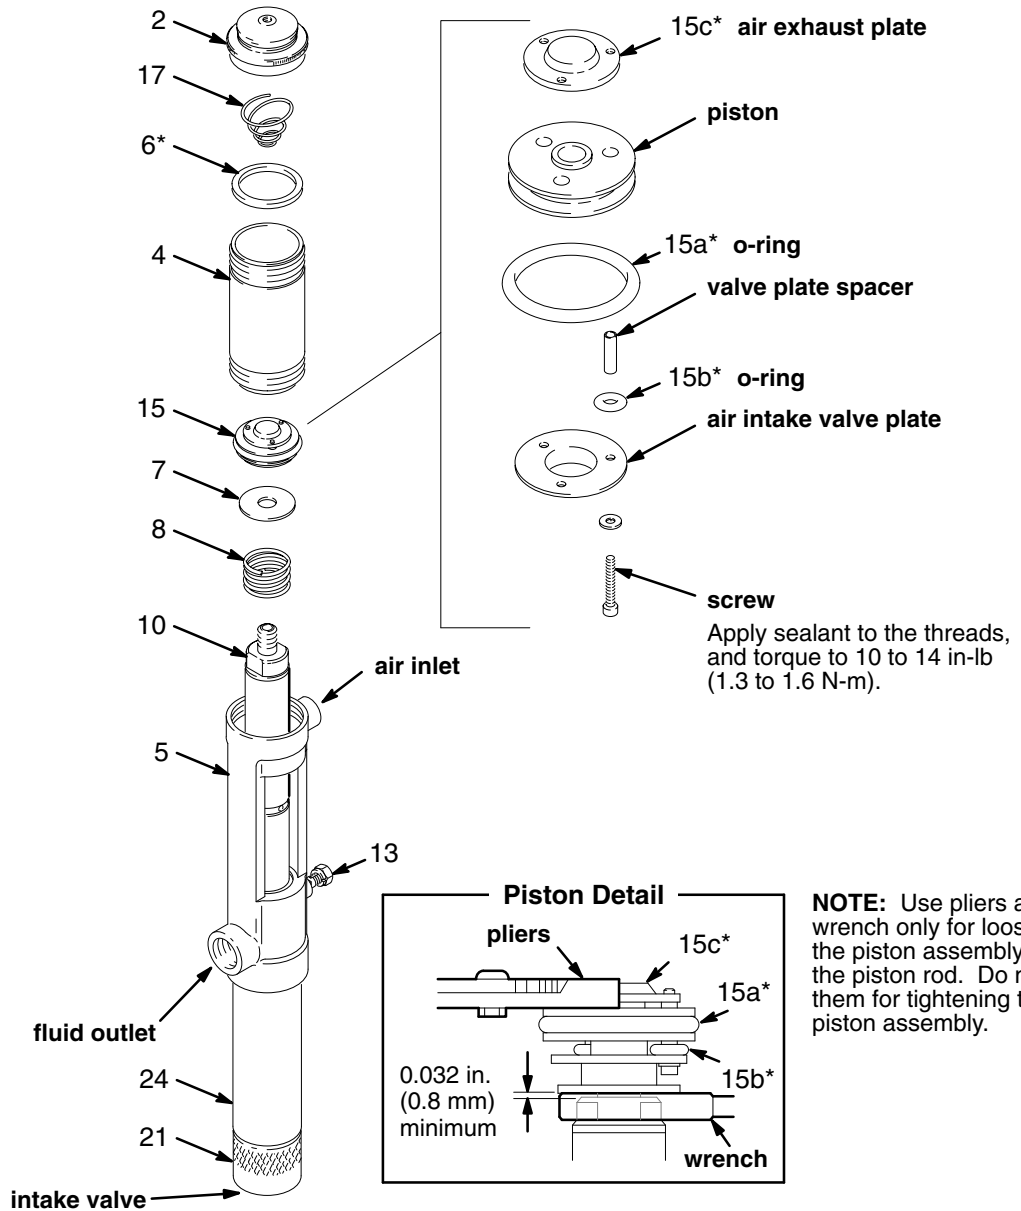

Fig. 3
See Fig. 3.
3. Place the air motor base (5) in a vise.
4. Remove the air cap (2). Gently pry the coils of the spring (17) in the direction of the helix to remove the spring. Check the spring for wear or damage, and replace as needed.
5. Use a strap wrench to unscrew the air cylinder (4) from the base (5).
6. Unscrew the air piston assembly (15) from the piston rod (10). Use pliers on the air exhaust plate (15c*) and a wrench on the piston rod. See the **Piston Detail** in Fig. 3.
7. Disassemble the air piston assembly (15). See the **Piston Detail** in Fig. 3. Clean all parts, and inspect them for wear or damage. If any valve plate spacers are damaged, replace all three in order to maintain the correct clearance between the valve plates and seals.
8. Check the spring (8) for wear or damage, and replace as needed.
9. Apply sealant, such as Loctite® green, to the threads of the screws. Assemble the parts as shown in the **Piston Detail** in Fig. 3. Torque the screws to 10 to 14 in-lb (1.3 to 1.6 N-m).
See Fig. 3, and see the **Parts Drawing** on page 13.